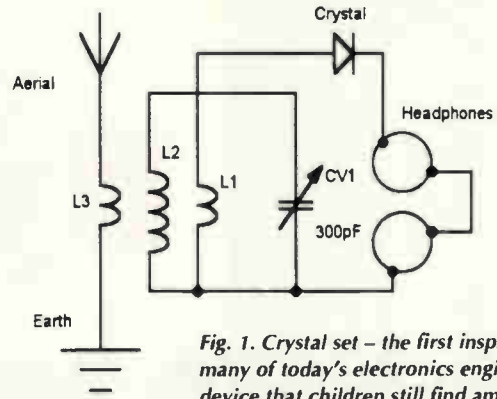

Fig. 1. Crystal set - the first inspiration for many of today's electronics engineers and a device that children still find amazing.
**O**ften a small, apparently insignificant, act can alter the whole direction of future events. I was an eight year old school-boy when I first experienced such a turning point, when my grandfather, a retired chemistry lecturer, unearthed an old crystal radio from his loft. It was complete with a pair of Ericsson headphones and a crumpled silver cat's whisker – but no crystal and no aerial, **Fig. 1**.